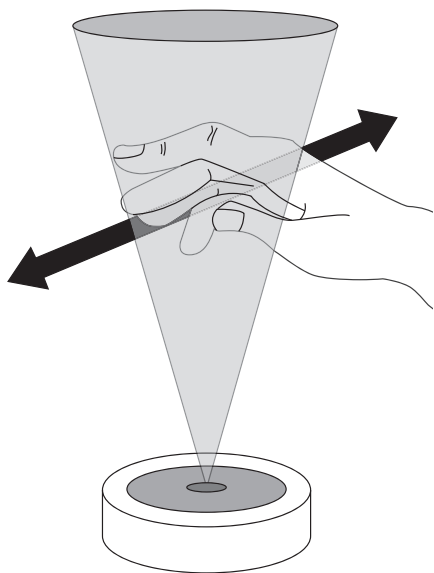

Figure 2a – Pass-through activation
- A 'pass-through' where the object (perhaps a hand) is passed horizontally through the beam and out the other side. When using this technique, it is best to make sure the Range is around twice the nominal distance of the object from the cover glass. See Figure 2a.